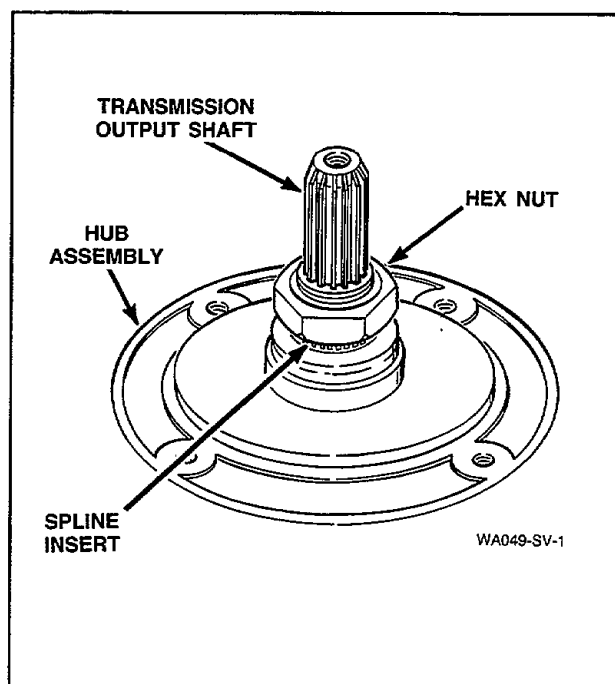

Figure 38
- m. Remove the large hex nut using a No. 237P4 Hex Wrench, *Figure 38*.
- k. Remove the spline insert from the transmission tube, *Figure 38*.
IMPORTANT: DO NOT allow sealant to contact the flinger, *Figure 38*, because this could prevent the flinger from keeping moisture out of upper bearing.